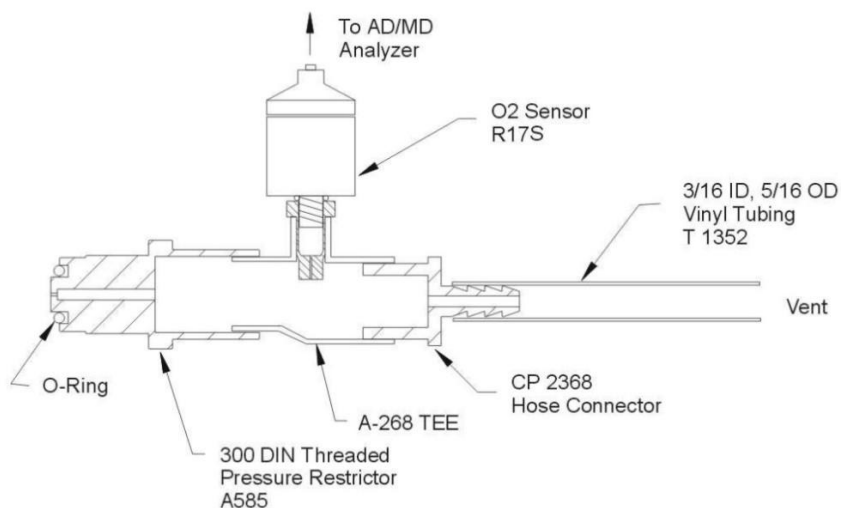

Figure 2-11: High Pressure Gas Sampling
- Directly from the high pressure gas cylinder using the optional DIN restrictor shown in Figure 2-11.